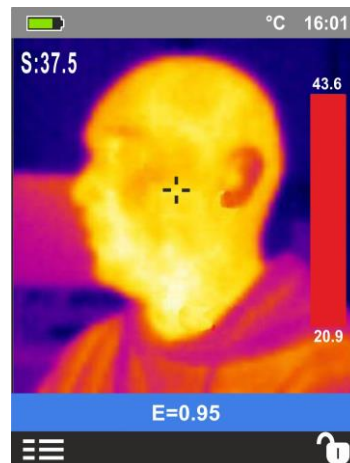

Fig. 37: Visualization of alarm condition in Screening function
9. Frame the subject on test at a recommended distance of 1m. With temperature of the subject higher than the set alarm threshold value the bar associated with the palette turns red and flashes on the display (see Fig. 37) and an acoustic alarm is activated (THT45, THT46)